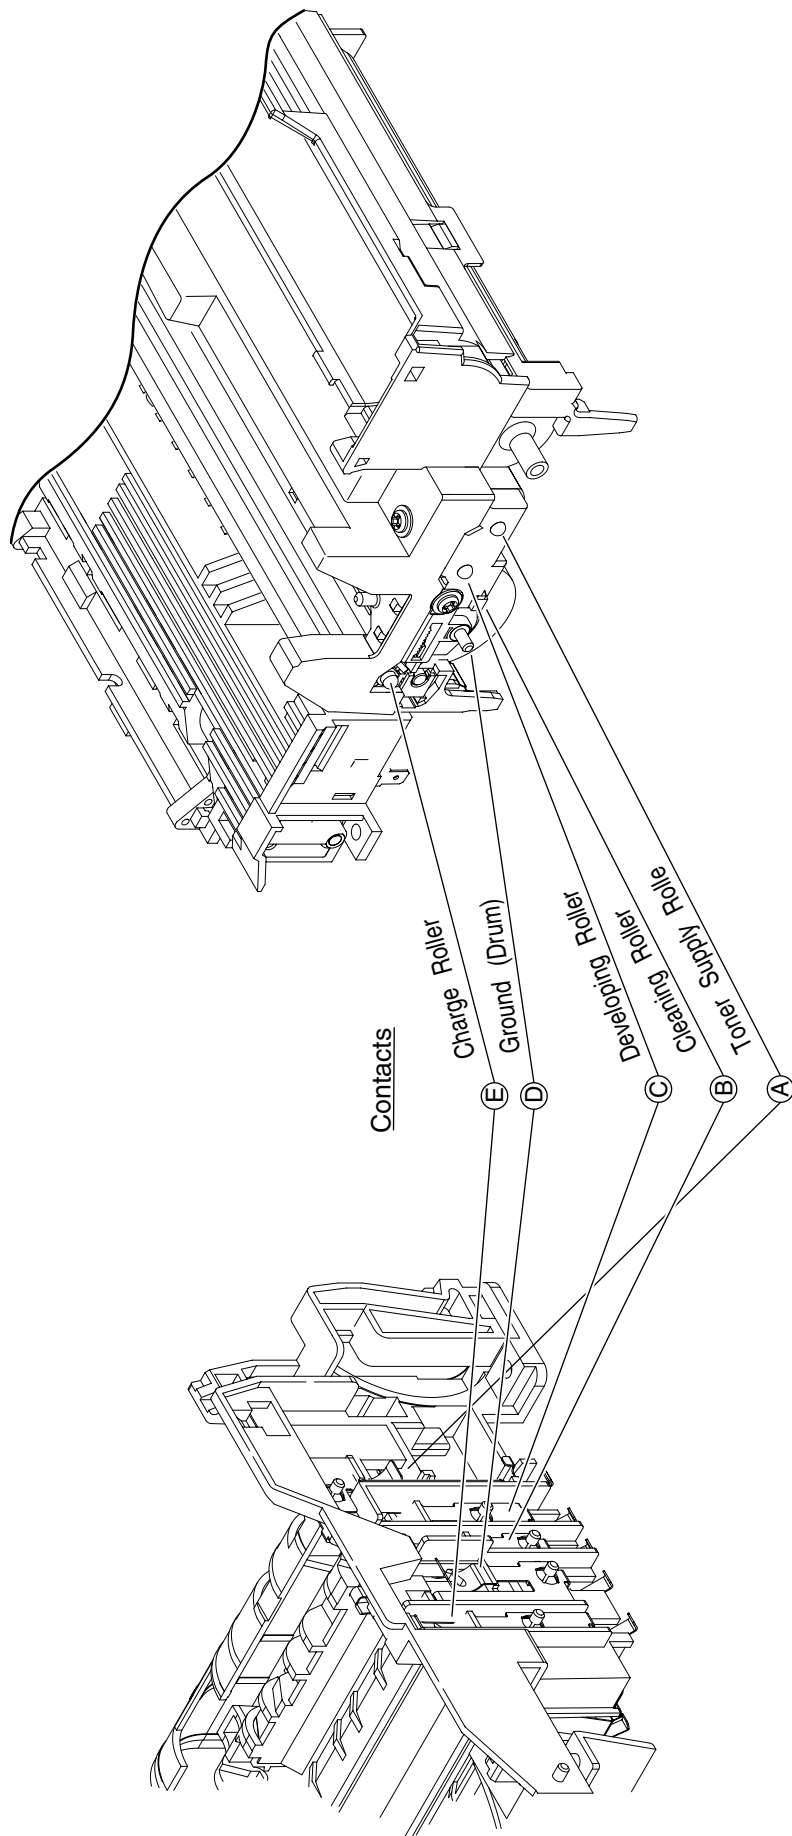

Figure 5-4
▼ Yes Are the contact of the developing roller and the contact of the toner supply roller of the image drum cartridge in contact with the contact assembly properly (see Figure 5-4 (A) and (B))?